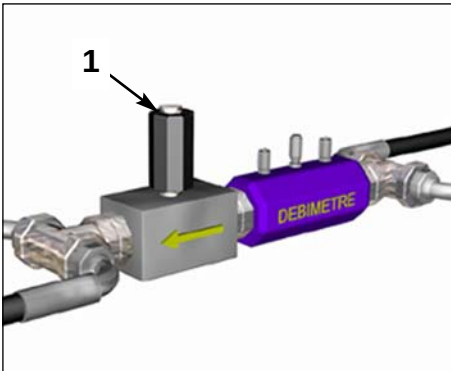

Fig. 1 Flow meter adaptation kit (TOP-TEST MX)
- 7- Remove the connector with the hose and refit the plug on the pump (1 fig. 1).